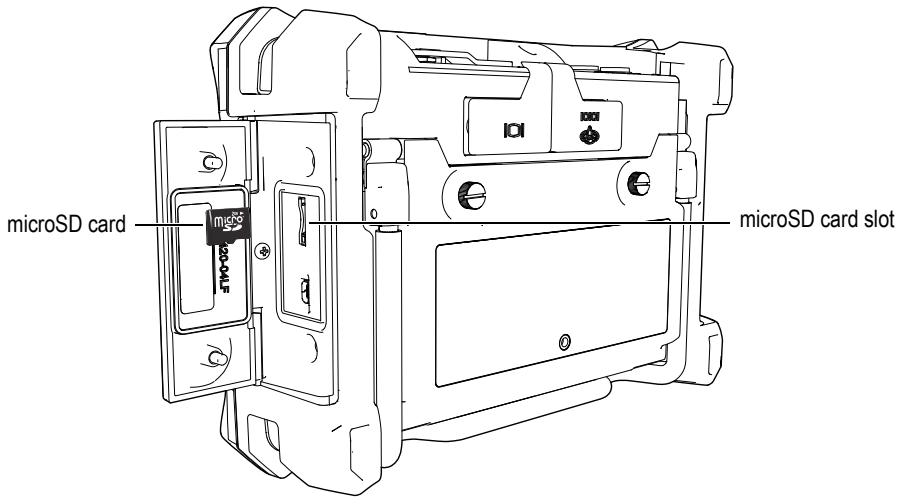

Figure 7-23 The microSD card location
1. Make sure that a microSD card is inserted in the BondMaster 600 (see Figure 7-23 on page 210).